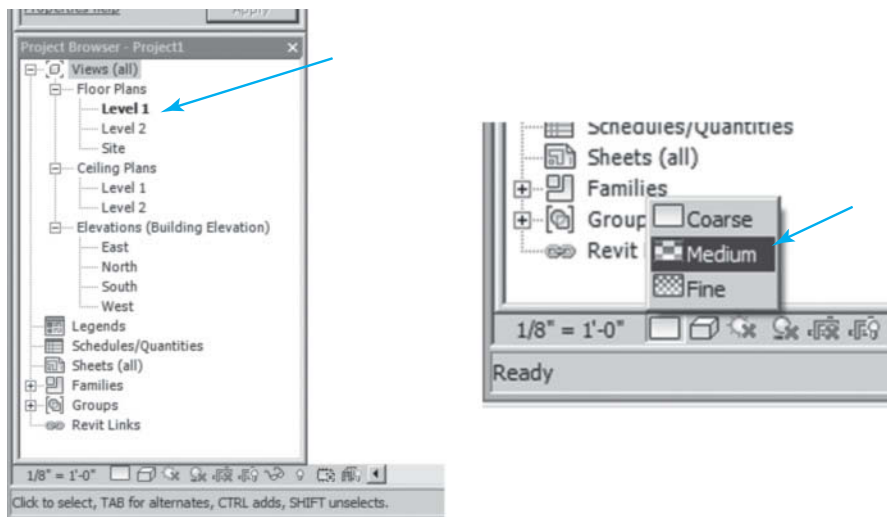

Figure 3-2
3. Set the **Detail** to **Medium** (see Figure 3-2) so that you can see the wall components in **Level 1 Plan** view).